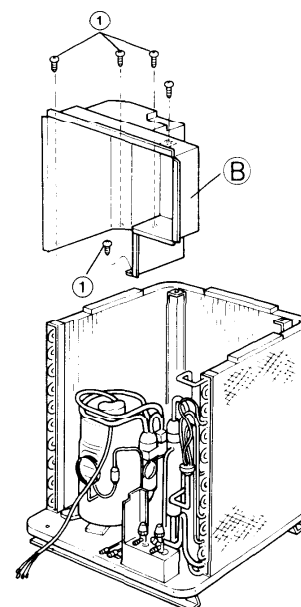

Fig. 20
- 1 ) Remove the four screws (1) fixing the cover (B), and raise the cover (B) to remove it. Fig. 20